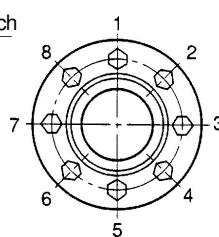

Figure 2 Bolt tightening sequence
3) After inserting to the prescribed position, determine the relative positions (circumferential and axial) of the driven shaft and reducer output shaft. Once the position has been determined, use a torque wrench to lightly tighten the roughly diagonal tightening bolts (In Fig. 2, work from bolt (1) → bolt (5)).
(In Figure 2, repeat (1) → (2) → (3) → (4) → (5) → (6) → (7) → (8) → (1))